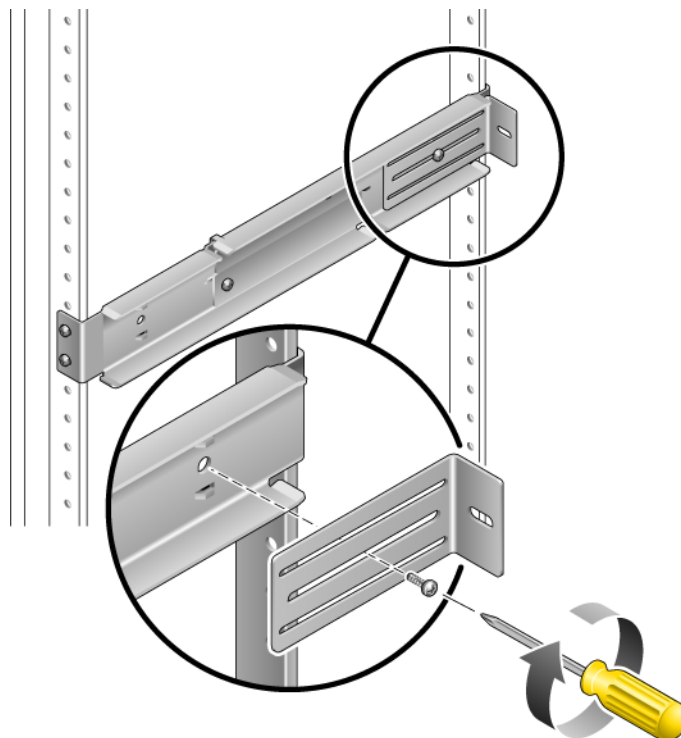

FIGURE 2-18 Installing the Rear Flange Onto the Adjustable Rail
8. Using one M5 x 7 SEM screw for each rear flange, loosely install a rear flange onto the rear of each of the adjustable rails (FIGURE 2-18).
12. Push the server to the desired depth in the rack, then go to the rear of the server and push the rear flanges flush against the back of the server (FIGURE 2-18).
14. Set the rear flanges to the desired depth in the rack, then tighten the single M5 x 7 SEM screw to secure each flange to each adjustable rail (FIGURE 2-18).